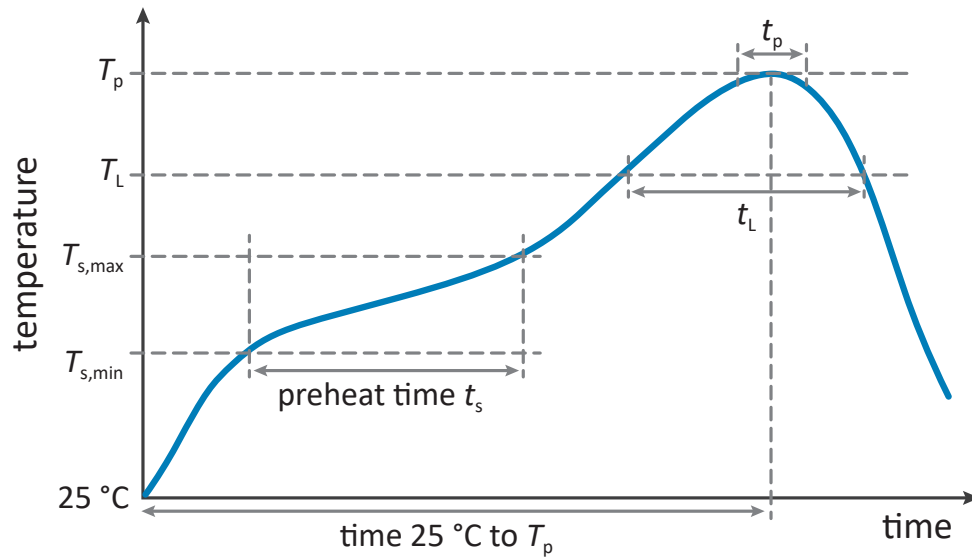

Figure 16. Reflow profile definition according to JEDEC J-STD-020E.
3. **Cool down:** the board is cooled down rapidly, allowing the solder to freeze, before the board exits the oven. As a point of reference, the melting temperature for SAC 305 is 217 °C, and the minimum peak reflow temperature is 235 °C. Lumileds successfully utilized the reflow profile in Figure 16 and Table 10 for LUXEON Altalon Intense on FR4 and MCPCB.